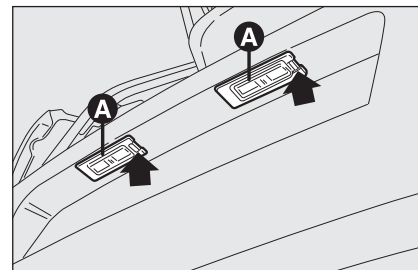

fig. 28
- ☐ manipulate the point shown by the arrow and remove the lens unit **A-fig. 28**;